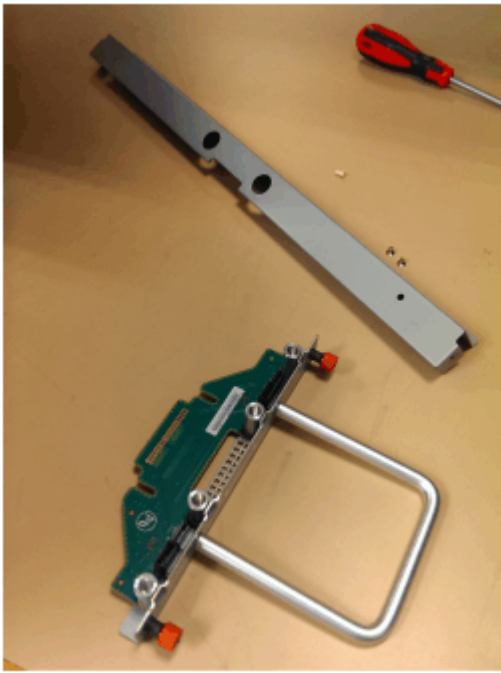

Figure 116. FIB parts removed from the chassis
4. Place the FIB (shown in Figure 116 on page 102) in a safe location.